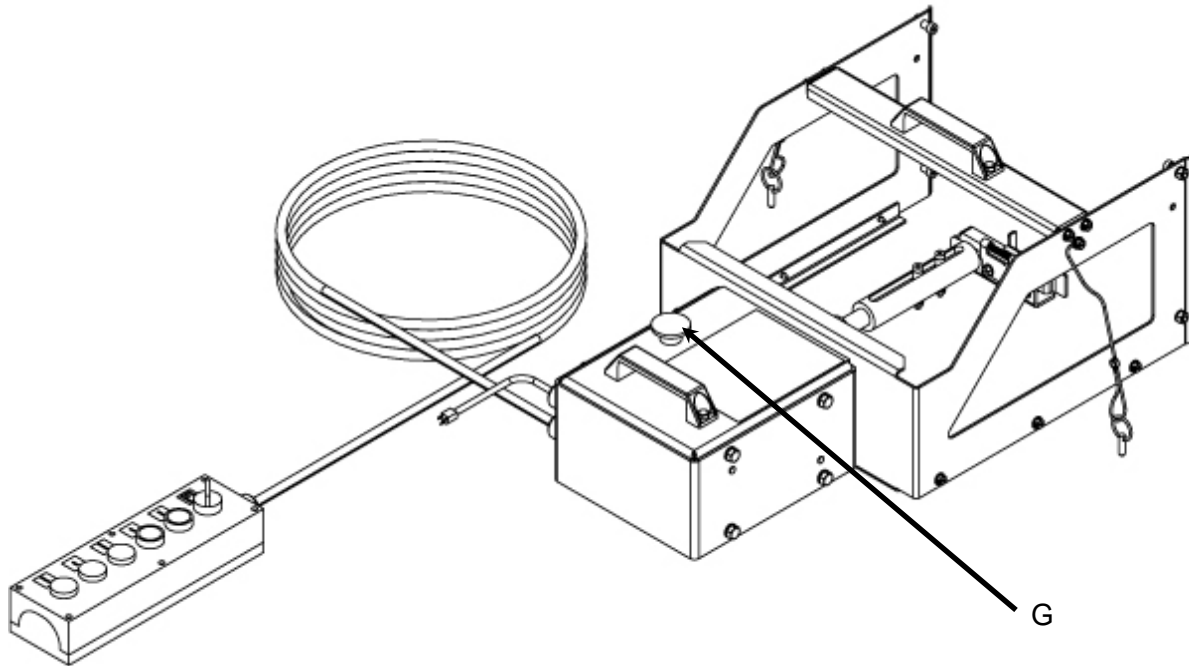

Fig. 2.7
9. Plug the Power Cord into a wall outlet and return the Power Switch to ON by lifting the knob. See Fig.2.7, item G.